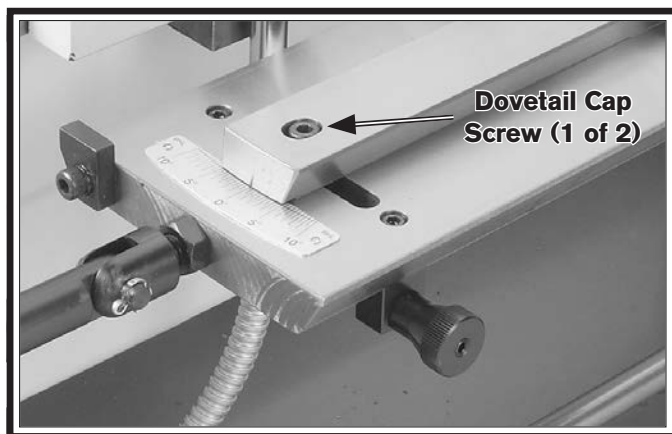

Figure 25. Dovetail cap screw (1 of 2).
4. Loosen both dovetail cap screws (see **Figure 25**).